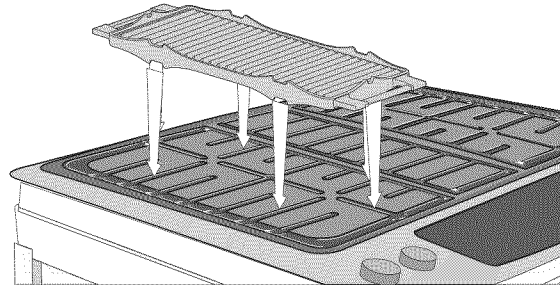

Figure 1
The griddle is intended for direct food cooking and can be used on both sides. **Do not** use pans or other cookware on the griddle. Doing so could damage the finish. With the grate in position over the burner, set the griddle on top of the grate positioning the notches in the griddle over the grate fingers (refer to figures 1 for optimal positioning).
- Always use the broiler pan and its grid when broiling. It allows the dripping grease to be kept away from the high heat of the broil element (see Figure 1).